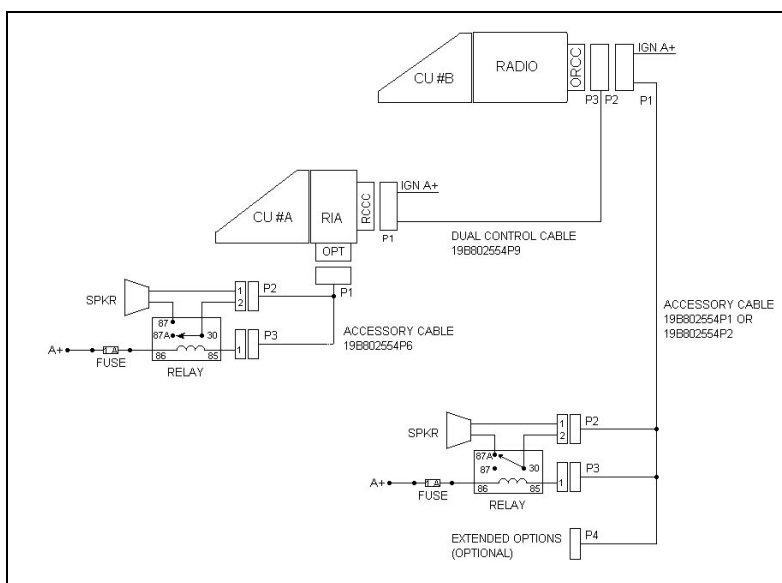
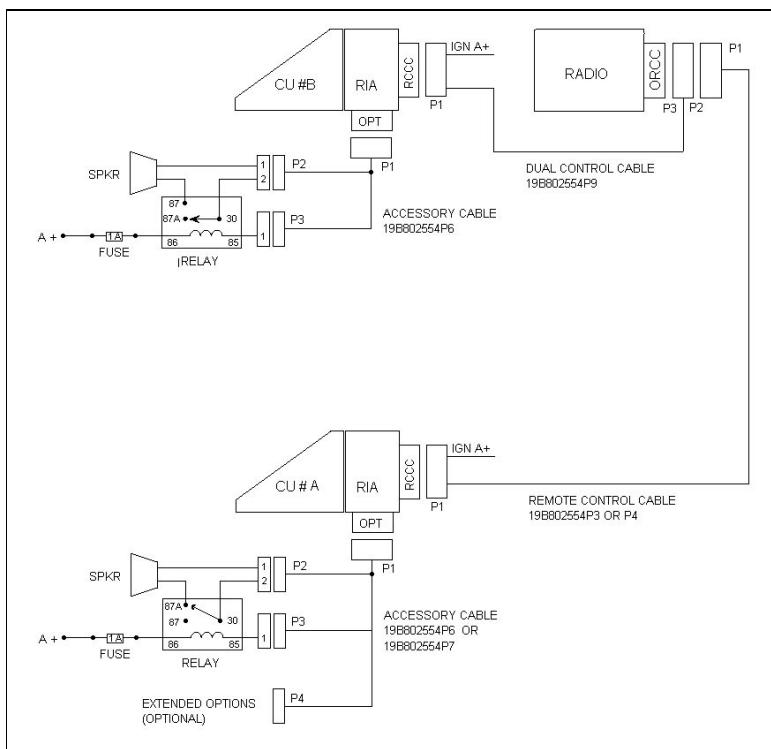

Figure 33 - ORION Dual Control Unit Front Mount/Remote Mount Installation Configuration
Figure 34 - ORION Dual Control Unit Remote Mount/Remote Mount Installation Configuration
The Dual Control feature can be configured for either front mount or for remote mount Radio Units. Each configuration provides for a Main Control Unit and an Auxiliary Control Unit. In the front mount configuration, the Main Control Unit is on the Radio Unit itself (see Figure 33), with the Auxiliary Control Unit located in a convenient location. In remote mount configuration the Main Control Unit is typically located in the vehicle cab, with the Auxiliary Control Unit located in a convenient location (see Figure 34).
1. Referring to Figure 33, run the Dual Control Cable (19B802554P9) between locations for the Radio Unit and Auxiliary Control Unit. Be sure to locate the P2/P3 connector assembly at the Radio Unit.
9. Radio Unit Speaker: Connect the lead nearest the speaker to Pin 87A of the relay. Connect the lead nearest the connector to Pin 30 of the relay. Connect the connector to the Accessory Cable P2 (Refer to Figure 33).
connector to Pin 30 of the relay. Connect the connector to the Accessory Cable P2 (Refer to Figure 33).
11. For each relay: Connect a #18 AWG black wire between the relay, Pin 85 and Accessory Cable P3-1 (labeled **“OUT2”** on the schematic diagrams in the service manual). Use a 1/4” tab receptacle on the relay side and mating Molex connector and pins on the accessory cable side. Connect the mating Molex connector to the Accessory Cable P3 when finished (Refer to Figure 33).
12. For each relay: Connect a #18 AWG red wire to the relay, Pin 86. Cut to length, and connect to the 1 amp fuse holder supplied. Use crimp on connectors supplied. Connect the other side of the 1 amp fuse holder to A+ battery source or vehicle A+ fuse block. Use #18 AWG red wire and ring lug supplied., if needed (See Figure 33).
1. Referring to Figure 34, run the Remote Control Cable (19B802554P3 or P4) between locations for the Radio Unit and Main Control Unit.
11. Main Control Unit Speaker: Connect the lead nearest the speaker to Pin 87 of the relay. Connect the lead nearest the connector to Pin 30 of the relay. Connect connector to the accessory cable P2 (Refer to Figure 34).
12. Auxiliary Control Unit Speaker: Connect the lead nearest the speaker to Pin 87A of the relay. Connect the lead nearest the connector to Pin 30 of the relay. Connect the connector to accessory cable P2 (Refer to Figure 34).
13. For Each Relay: Connect a #18 AWG black wire between the relay, Pin 85 and accessory cable P3-1 (labeled “OUT2” on schematic diagrams in the service manual). Use a 1/4” tab receptacle on the relay side and a mating Molex connector and pins on the accessory cable side. Connect the mating Molex connector to the accessory cable P3 when finished (Refer to Figure 34).
14. For Each Relay: Connect one end of a #18 AWG red wire to the relay, Pin 86. Cut the lead to length, and connect the other end to the 1 amp fuse holder supplied. Use crimp on connectors supplied. Connect the other side of the 1 amp fuse holder to the A+ battery source or a vehicle A+ fuse block. Use a #18 AWG red wire and a ring lug supplied, if needed (Refer to Figure 34).